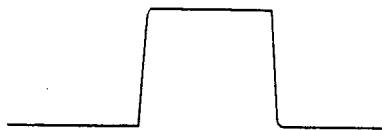

FIGURE 5-5
- The output waveform (Refer to Figure 5-5) should be clean and sharp throughout the entire range of the level control.